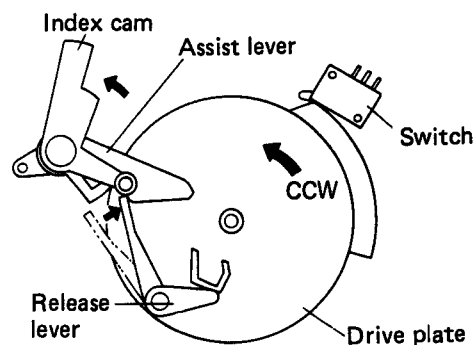

Fig. 2-12 Auto lead-in operation 3
6. If, on the other hand, a 30cm record is placed on the turntable platter, the roller in the index cam is pushed out by the edge of the record, and the smaller index cam fan shape is set in the PU plate locus (see Fig. 2-12).